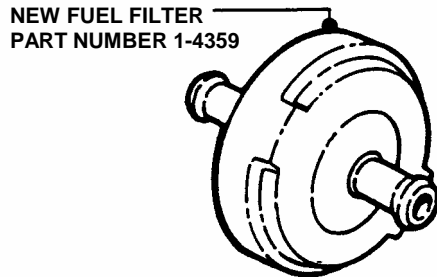

FIGURE 3.13
3. Install new fuel filter part number 1-4359. See Figure 3.13.